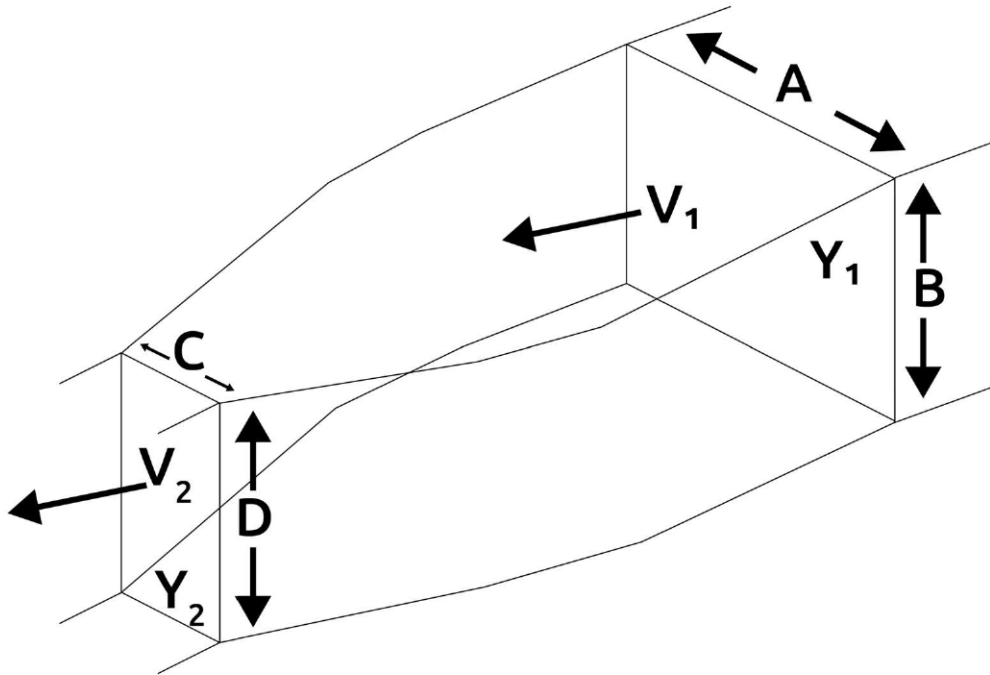

Figure 2: River Cross-sections and Flow Velocity
In the river channel depicted in Figure 2 the volume of water, which passes through section Y1 in a second, is the **DISCHARGE** (Q) and will be given by: $Q = a \cdot b \cdot V_1$
In section 3.1 it was demonstrated (Figure 2) that: